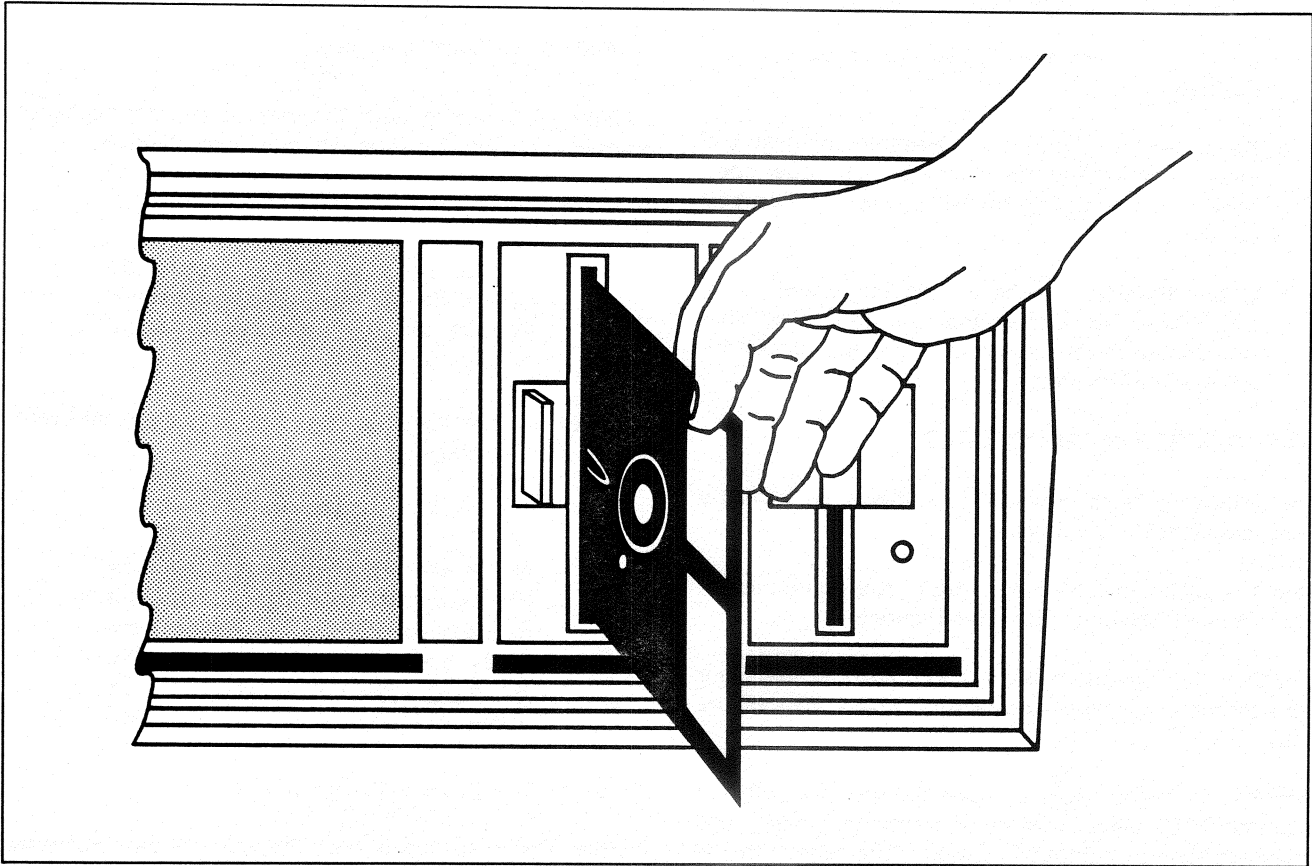

Figure 5-5. Proper Installation Method
**Step 2** – Pick up the diskette and hold it so that your right thumb covers the manufacturer's label. (See Figure 5-5.)